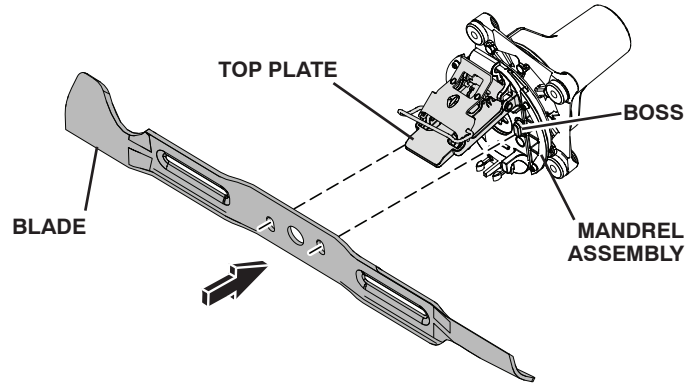

Fig. 22
- Align bosses and insert blade. (See Fig. 22.)